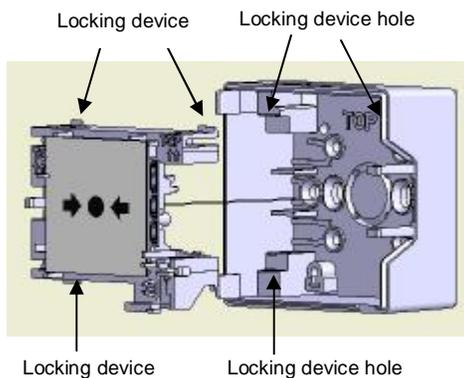

Figure 7 Panel Installation
4. Place the panel into the housing with the inscription "TOP" pointing upward(terminal at the right) until the locking device engages (see figure 7). When you want to take out the panel,